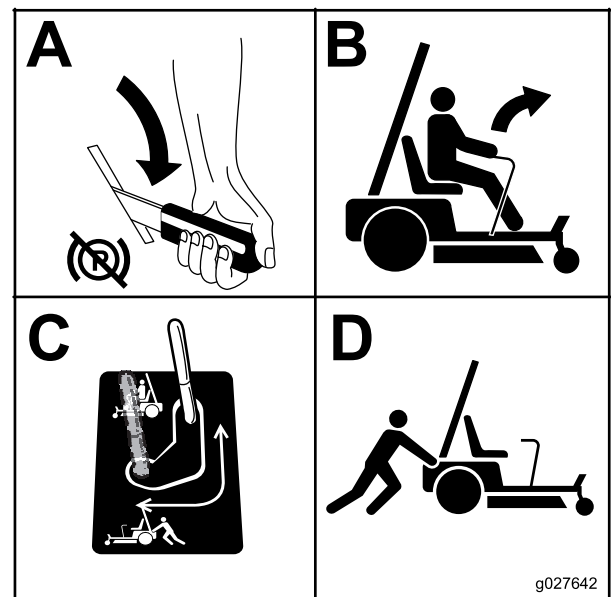

Figure 28
3. Do this procedure on each side of the machine Figure 28.
Move the bypass to the position for operating the machine (Figure 28) to engage the wheel motors.